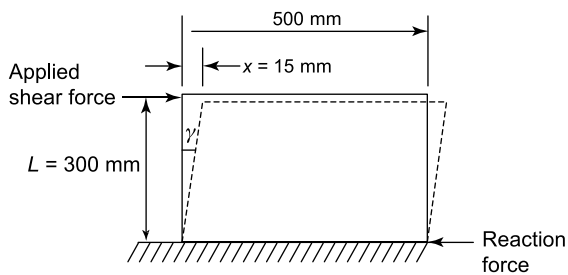

Figure 3.6
- (b) Shear strain, $\gamma = \frac{x}{L}$ (see side view in Figure 3.6)